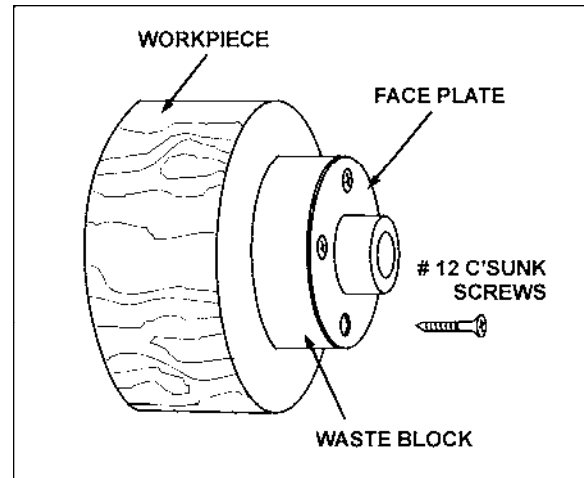

Figure 37
5. Make a block the same diameter as the face plate, Figure 37. Both waste block and workpiece should have flat surfaces for gluing.